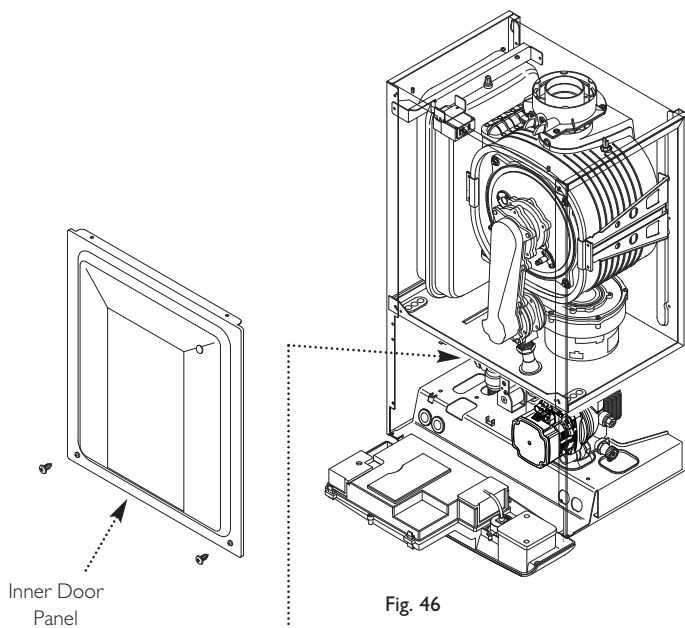

Fig. 46
4. Remove the screws securing the inner door panel. Lift the panel slightly to disengage it from the studs on top of the case (Fig. 46).